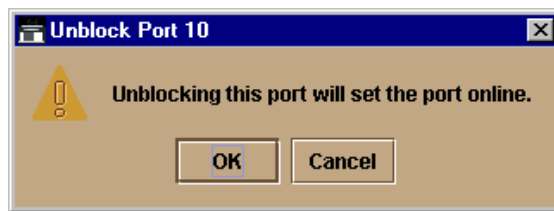

Figure 3-23: Unblock Port n Dialog Box
5. Select the Block Port menu option. Note the check mark in the box adjacent to the menu item, indicating the port is blocked. The Unblock Port **n** dialog box (Figure 3-23) displays (**n** is the port number).